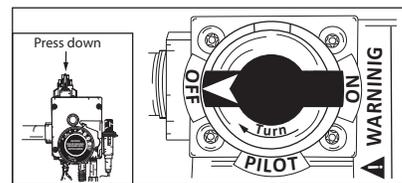

Figure 47 - Temperature Control Knob
- 5** Drain the water heater. Refer to the "Draining and Flushing the Water Heater" section in the water heater owners manual. (See Figure 47).